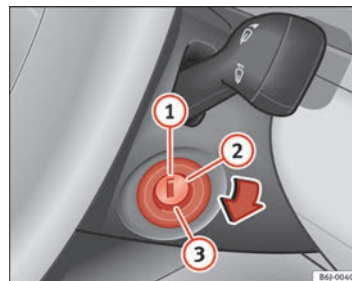

Fig. 107 Ignition key positions
In this position → Fig. 107 the ignition and the engine are OFF and the steering may get locked.
- Turn the ignition key to position ⇒ Fig. 107 ②. The warning lamp  will light for engine pre-heating.
- When the lamp turns off, turn the ignition key to position ③ to start the engine. Do not press the accelerator.
- Turn the ignition key to position ⇒ Fig. 107 ①.